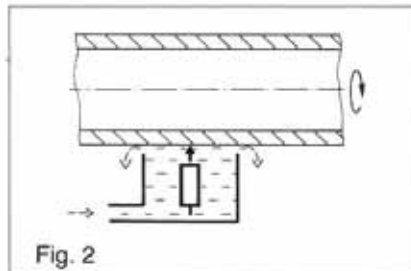
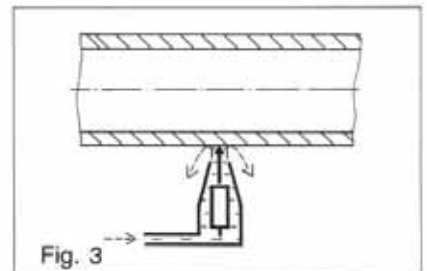

Fig. 2
Fig. 3
*Frequently, large test objects cannot be completely immersed due to their size. In such cases, special holders are used which enable coupling of the immersion probe, e.g. from below via a water filled chamber (bubbler technique, see fig. 2) or via a freely flowing water jet (squirtor technique, see fig. 3).*